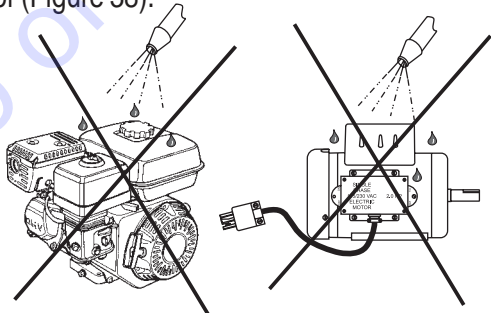

Figure 38. No Spraying of Water
6. **NEVER!** pour or spray water over the engine or electric motor (Figure 38).